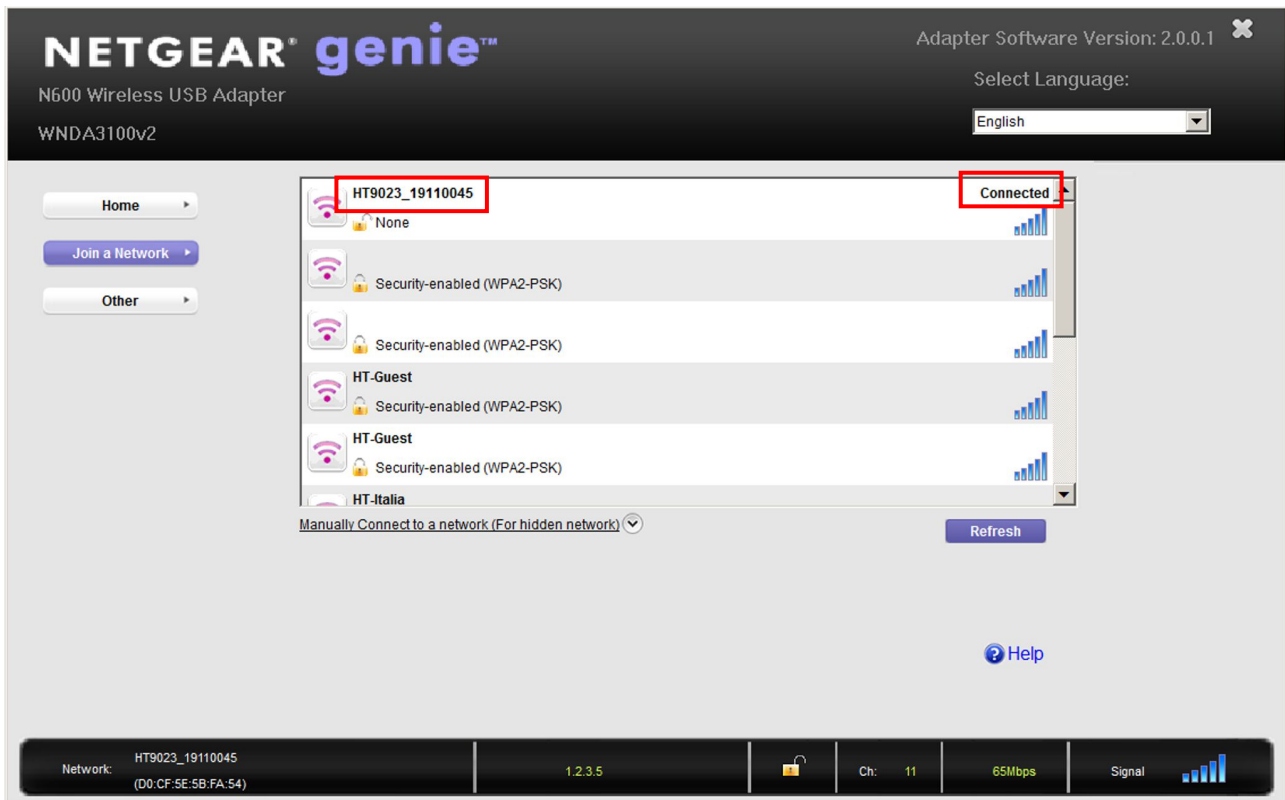

Fig. 15: WiFi connection of instrument to PC (example)
- Search for the “HT9023_xxxxxxx” instrument in the WiFi device included on the PC and connect it as shown as an example in the following Fig. 15